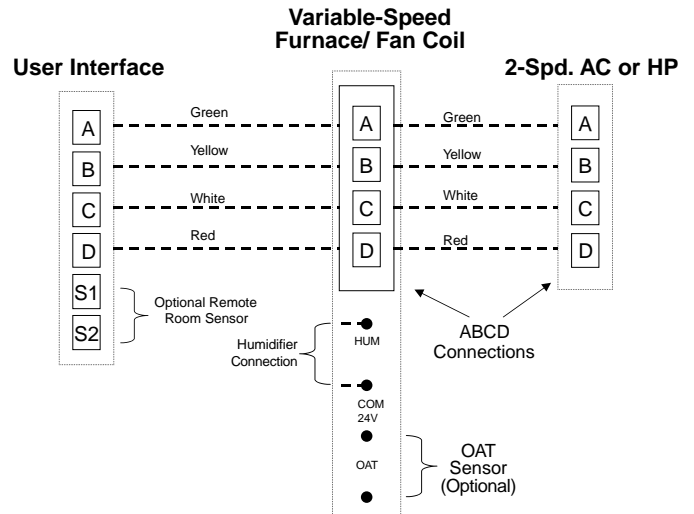

Fig. 12—Universal Four-Wire Connection Diagram
- Match and connect thermostat wires to proper terminals on User Interface backplate. See wiring diagram figures 12, 13 and 14.
See wiring diagram Figs. 12, 13 and 14.
See wiring diagram figure 12 for a Typical Four-Wire Connection Diagram, which includes an Evolution indoor communicating furnace or FE fan coil with a 2-speed Puron® communicating outdoor unit. No additional OAT (outdoor air temperature) sensor is required because the Evolution Control will use the temperature sensor inside the 2-speed unit.